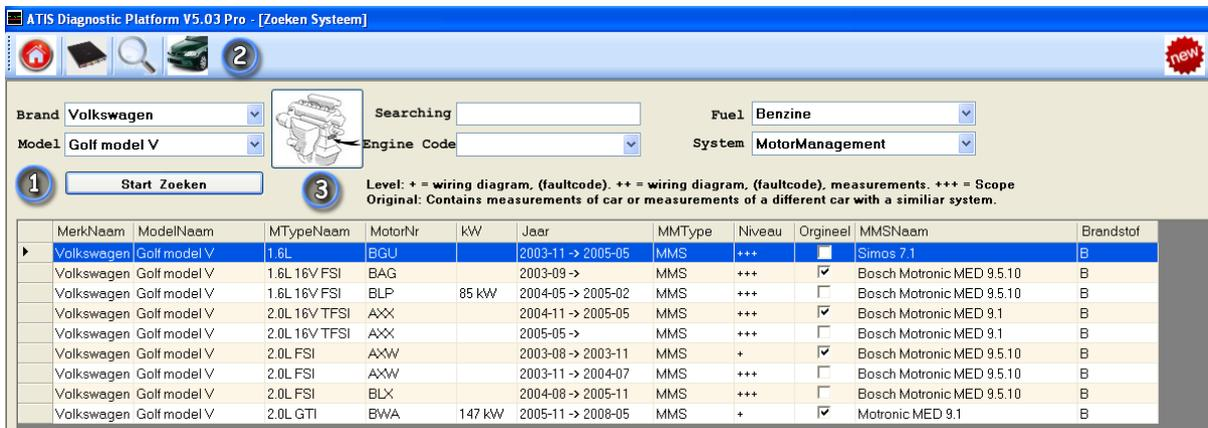
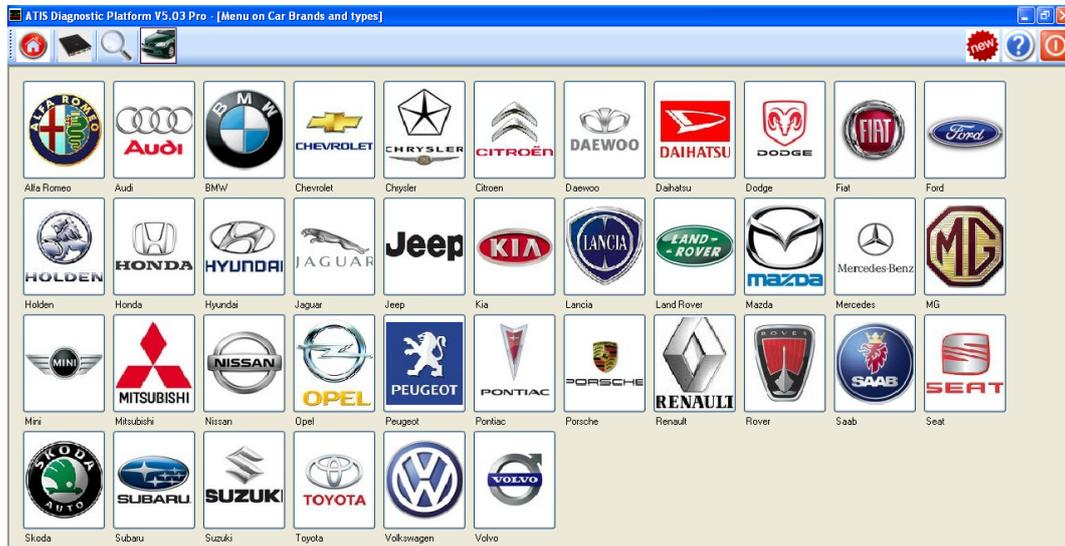

Figure 3.4: Selection Volkswagen Golf V petrol
Figure 3.5: Brands overview screen
To speed up the search, enter as many information as possible. The list to select from is then small. In our example, we search for a Volkswagen Golf V petrol, see figure 3.4
The button ② in figure 3.4 offers a different way of searching a specific car, it uses overview lists. Clicking it opens the overview shown in figure 3.5